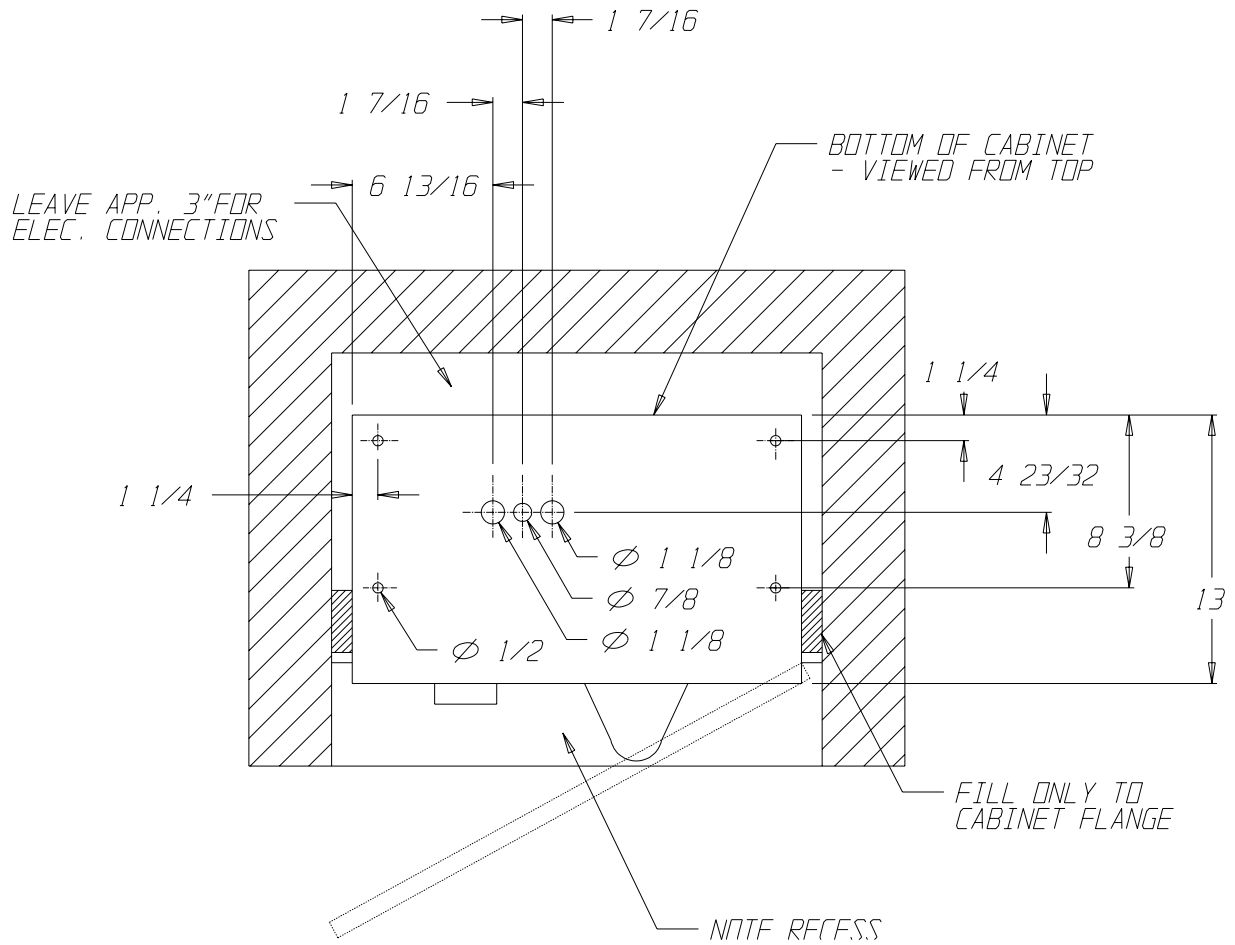
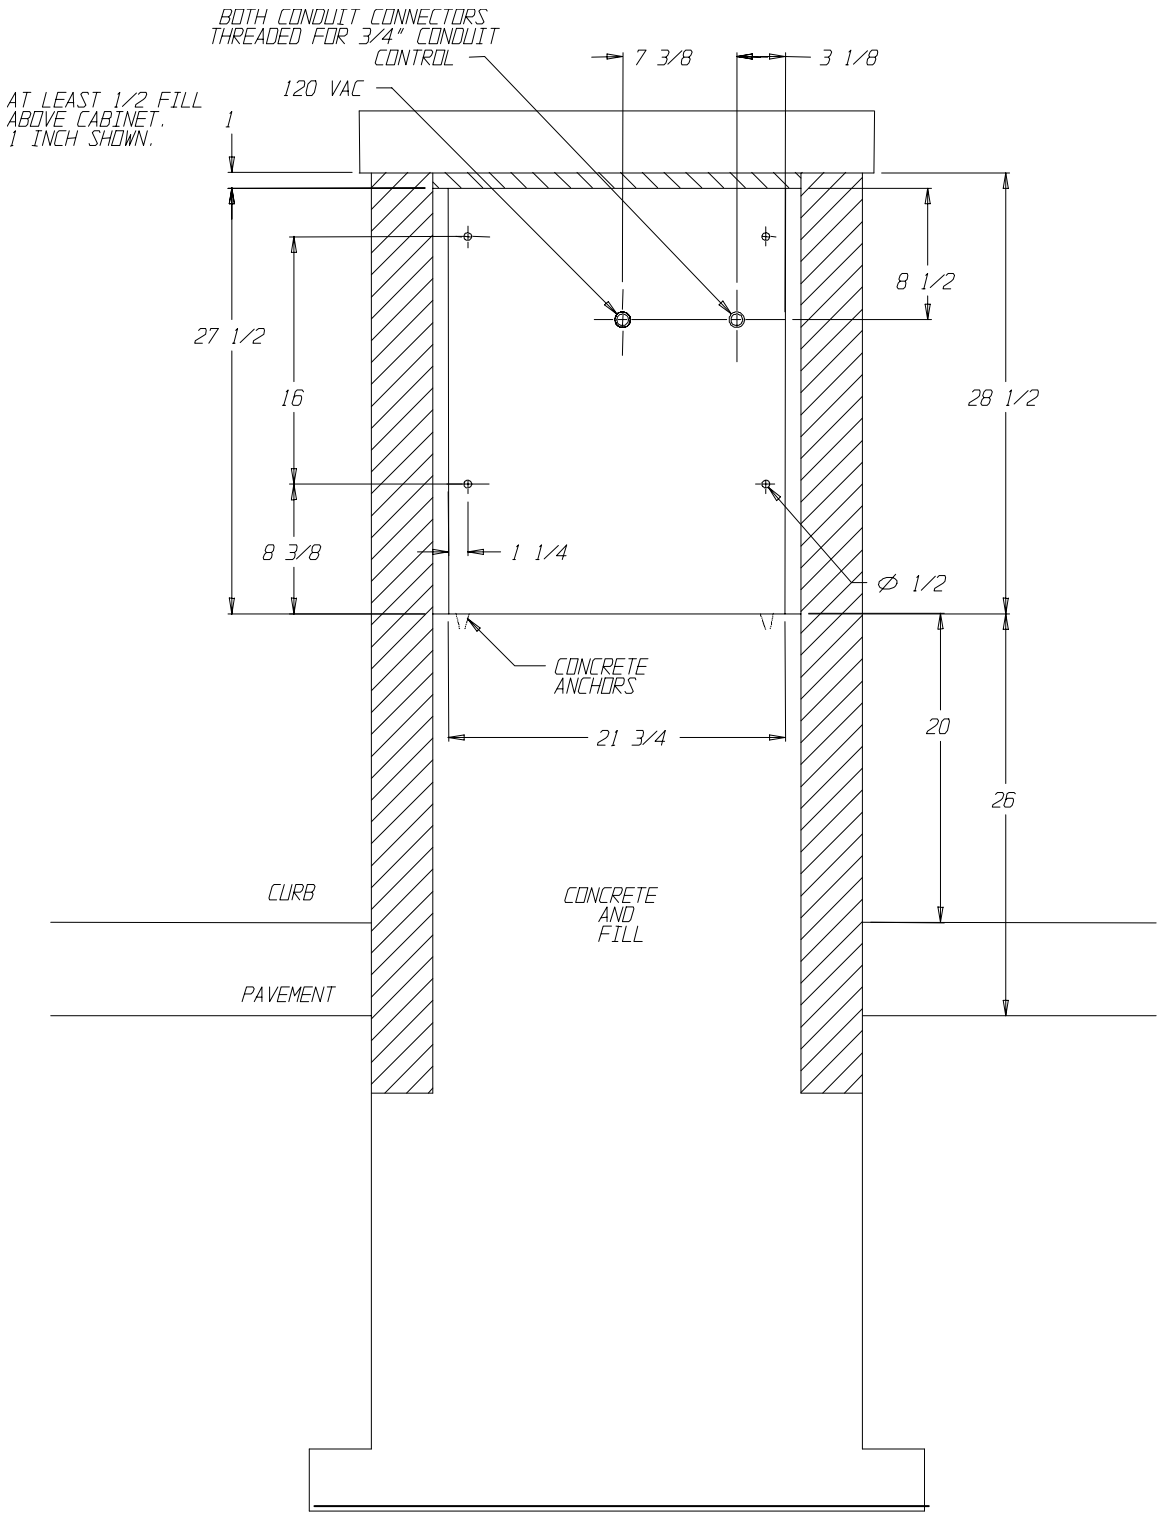

Figure 1
Figure 2
There are no set guidelines for the placement of the ACW-5. However, it is recommended that the machine is positioned far enough away from the wash entrance to minimize the amount of overspray that may get into the ACW-5. Also, there is a typical height, from the pavement to the bottom of the cabinet, of approximately 26" (see Figure 2).
- The first method is to construct a small brick or concrete kiosk that will house the Auto Cashier. Figure 1 and Figure 2 give the ACW-5 mounting hole locations as well as suggested kiosk dimensions. **Have your engineer or contractor recommend construction suitable for strength and stability.** For an illustration of this mounting procedure, refer to APPENDIX G.